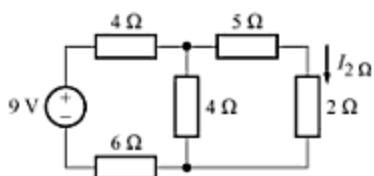

Fig. A-77
- A-36. Use Thevenin's theorem to determine the current *I*2Ω in the circuit of Fig. A-77.